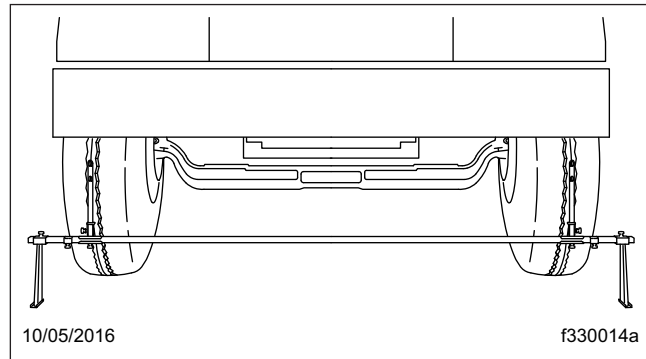
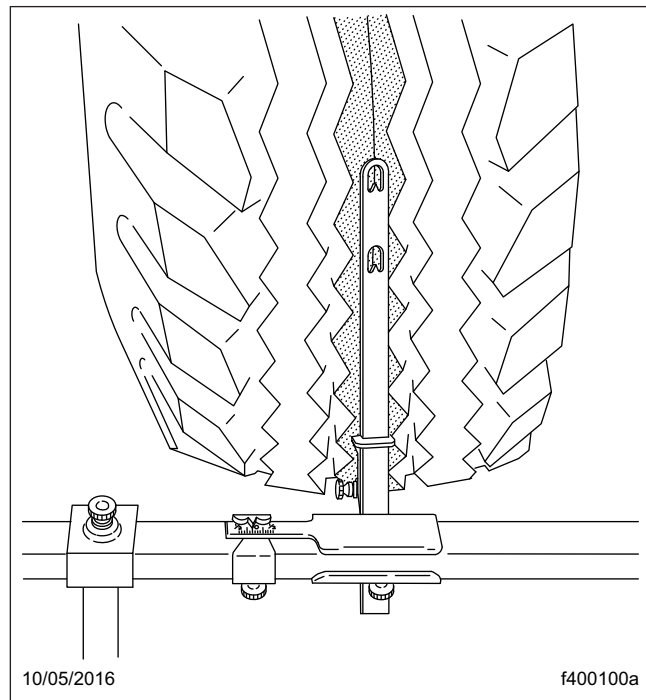

Fig. 8, Trammel Bar Positioning
Fig. 9, Setting Trammel Bar Pointers
- Place the trammel bar at the front of the tires (see Fig. 8) and adjust the scale end so that the pointers line up with the scribe lines. See Fig. 9.